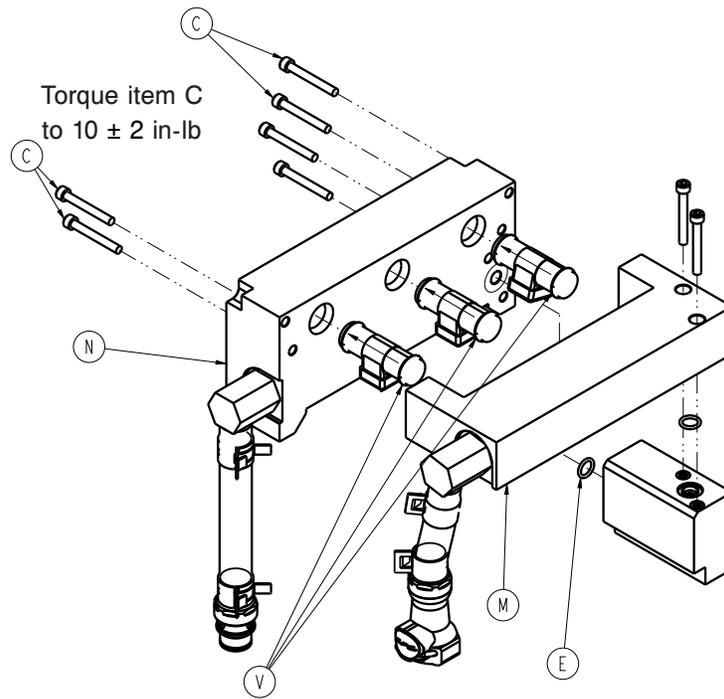

Figure 39 – Return manifold to supply manifold
5. Using a 5/32" hex wrench, remove the six screws (C) that secure the return manifold (N) to the supply manifold (M) (Figure 39). Save the screws.
Note - Verify that the O-ring (E) is seated between the return and supply manifolds (Figure 39).